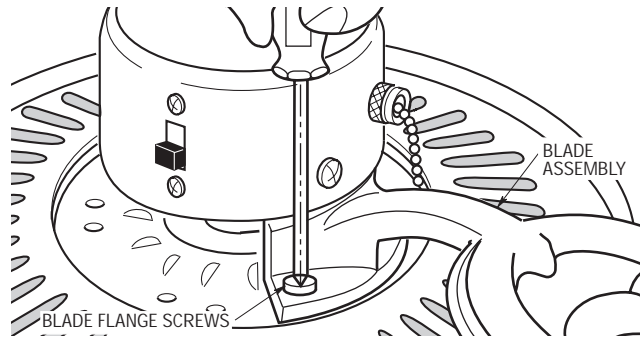

Figure 8
- 10. Loosely attach one blade assembly to the motor hub using two 1/4-20 x 1/2" Phillips oval head flange screws. Make sure the screws are NOT tightened. (Figure 8.) Repeat this procedure for other four blade assemblies.